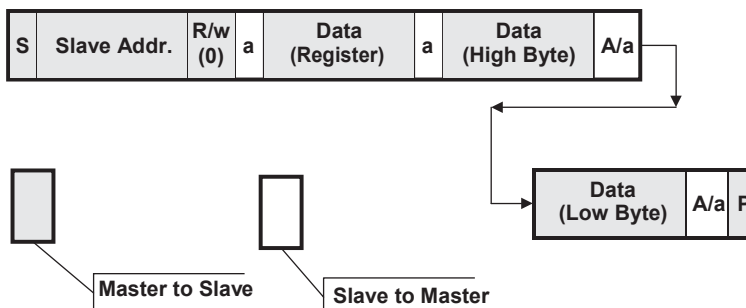

Figure 1. Master-Slave Writes
A particular protocol that is sometimes used for master-slave writes is shown in Figure 1. The full command is enveloped by a start bit (S) and a stop bit (P). After the address is written, there is a one-bit field where the write condition is specified.